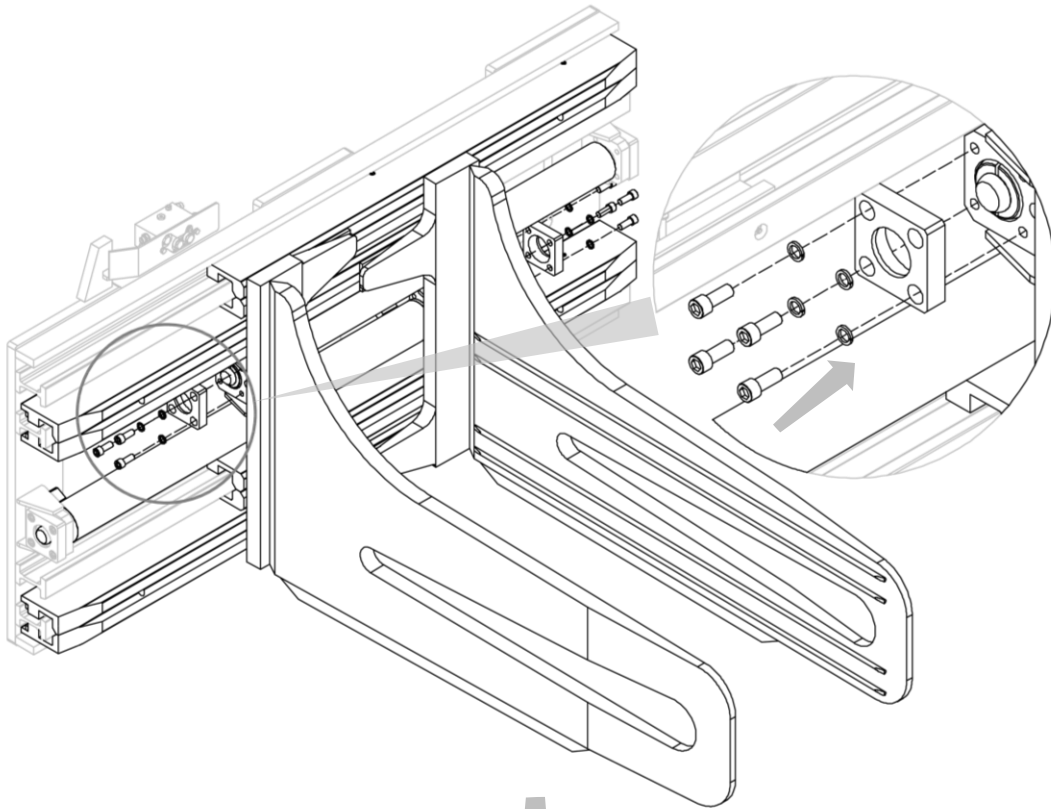
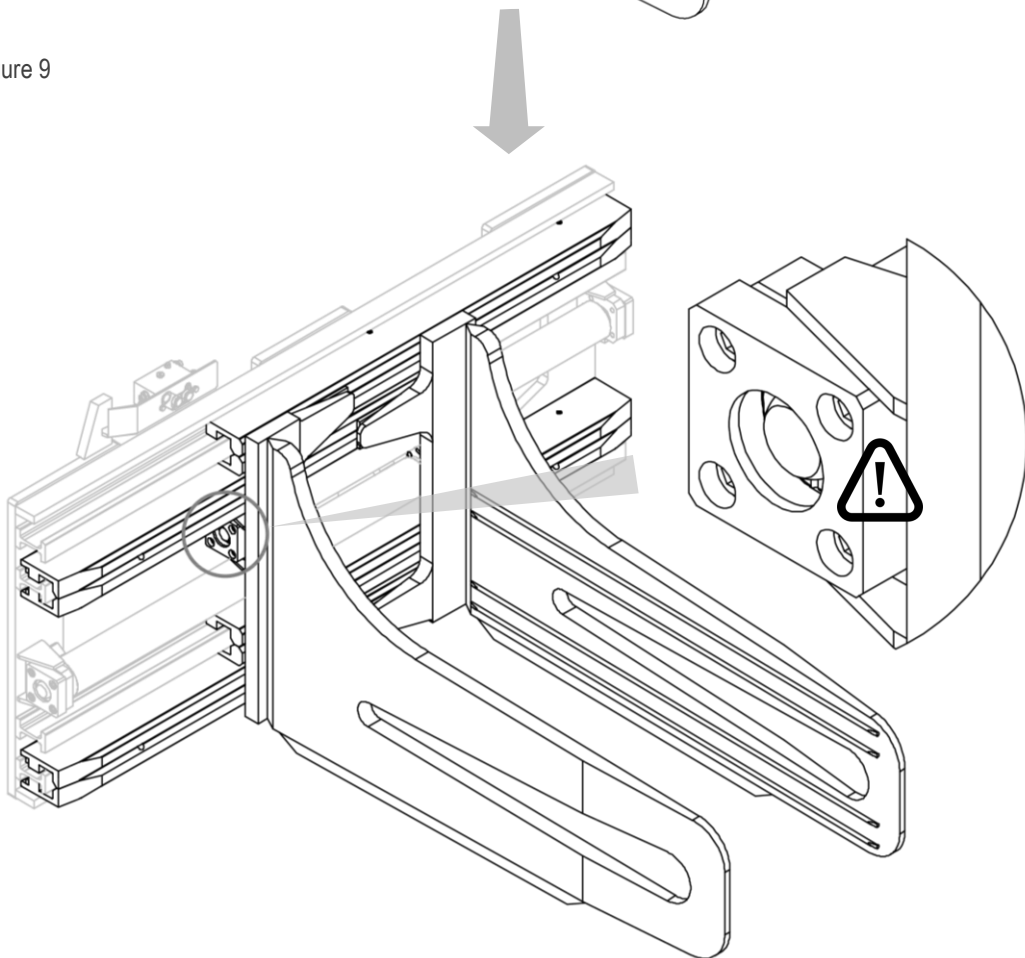

Figure 9
Figure 10
4. Secure the jaws to the cylinders (see *Figure 9* and *Figure 10*).